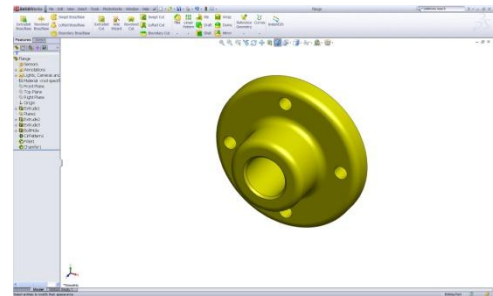
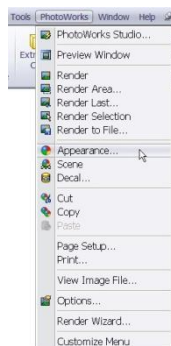

Figure 2
Figure 3
**Open the flange part file, as shown in Figure 2. From the main menu, select *PhotoWorks:Appearance*, as shown in Figure 3.**